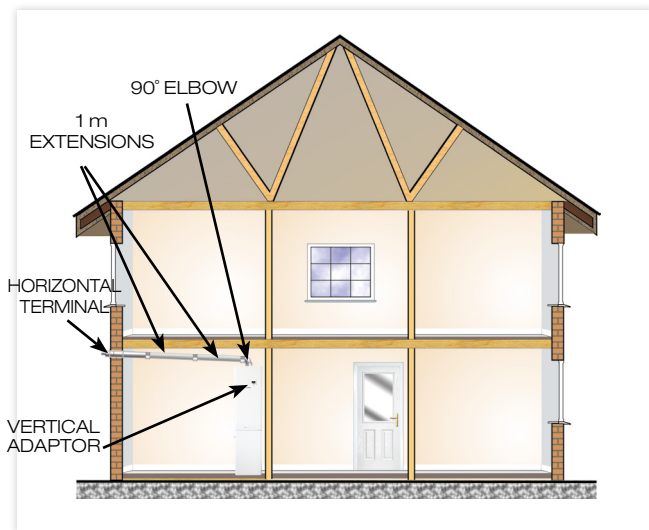

FIGURE 3. 60/100 mm HORIZONTAL CONCENTRIC FLUE EXAMPLE
9.2.1 Any additional radiators must be connected to pipe tails provided as detailed in Figure 3.